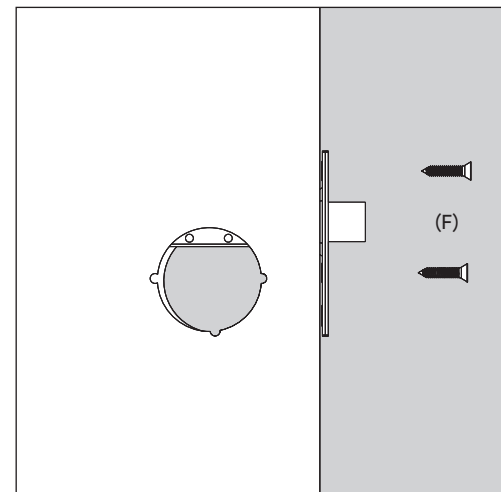

Figure 5.
8. Remove the deadbolt euro body (A) and drill the two face plate pilot holes.
9. Insert the deadbolt euro body (A) back into the door and fix in place with wood screws (F). Figure 5.